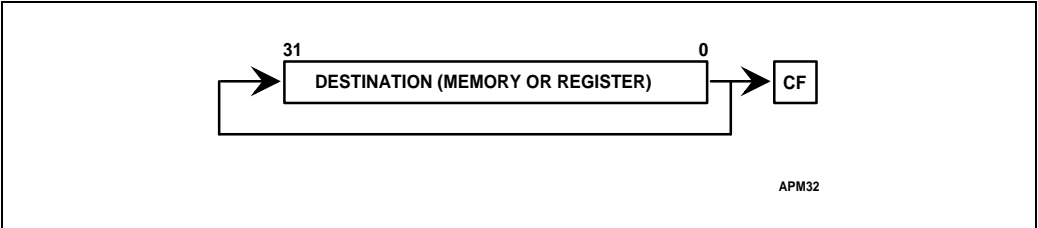

Figure 4-12. ROR Instruction
**ROR (Rotate Right)** rotates the byte, word, or doubleword destination operand right by one bit position or by the number of bits specified in the count operand (an immediate value or a value contained in the CL register). For each bit position of the rotation, the bit which exits from the right of the operand returns at the left. See Figure 4-12.